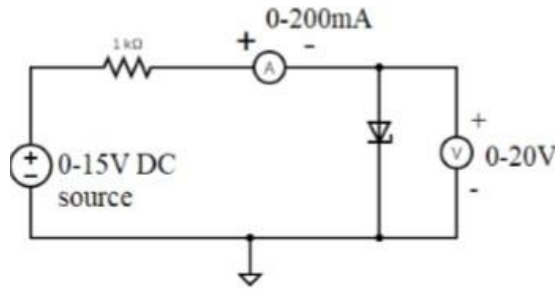

Fig 5 Zener diode forward biased
2.1 Examine the forward and reverse biased Characteristics Zener Diode as shown in the fig 5 and 6